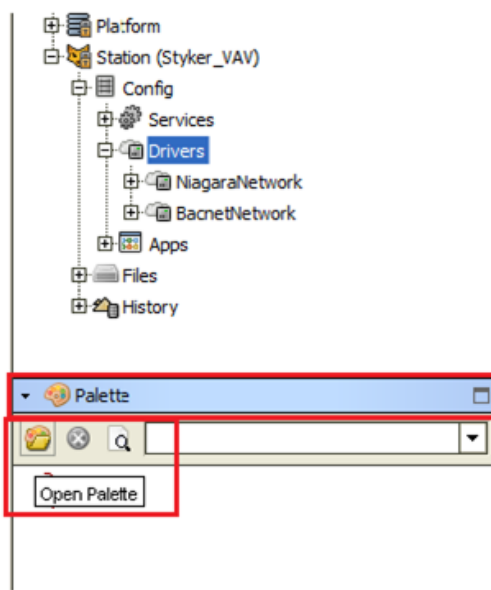

Figure 25: Opening Palette
- This will add a ‘Palette’ tab in the left pane. (Refer to Figure 25). Click ‘Open Palette’ option.